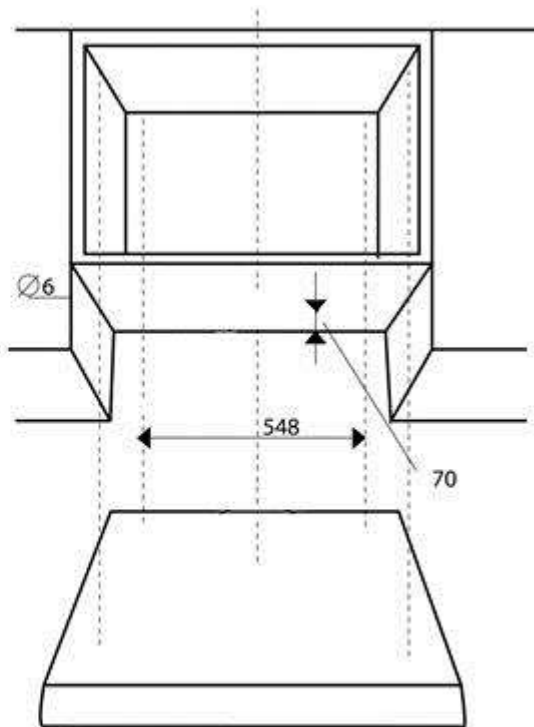

FIG. 6
2. Mark 4 points for the holes in the cabinet, respecting the distances indicated (Fig. 6), drill 4 holes of 6 mm in diameter in the cabinet.
3. Push the extractor against the cabinet and insert the 4 screws (5) that operate from the inside of the cabinet. Tighten the screws completely.
1. Mark 4 points for the holes in the cabinet, respecting the indicated distances (fig.6). Drill 4 holes of 6 mm diameter in the cabinet.
2. Push the extractor against the cabinet and insert the 4 screws (5) that operate from inside the cabinet. Tighten the screws completely.